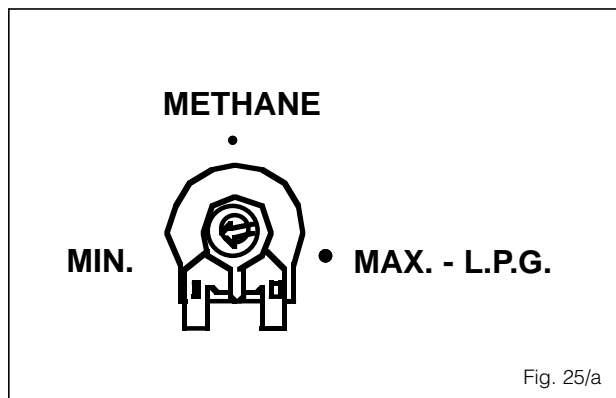

Fig. 25/a
- “MET-L.P.G.” connector (10, Fig. 25):